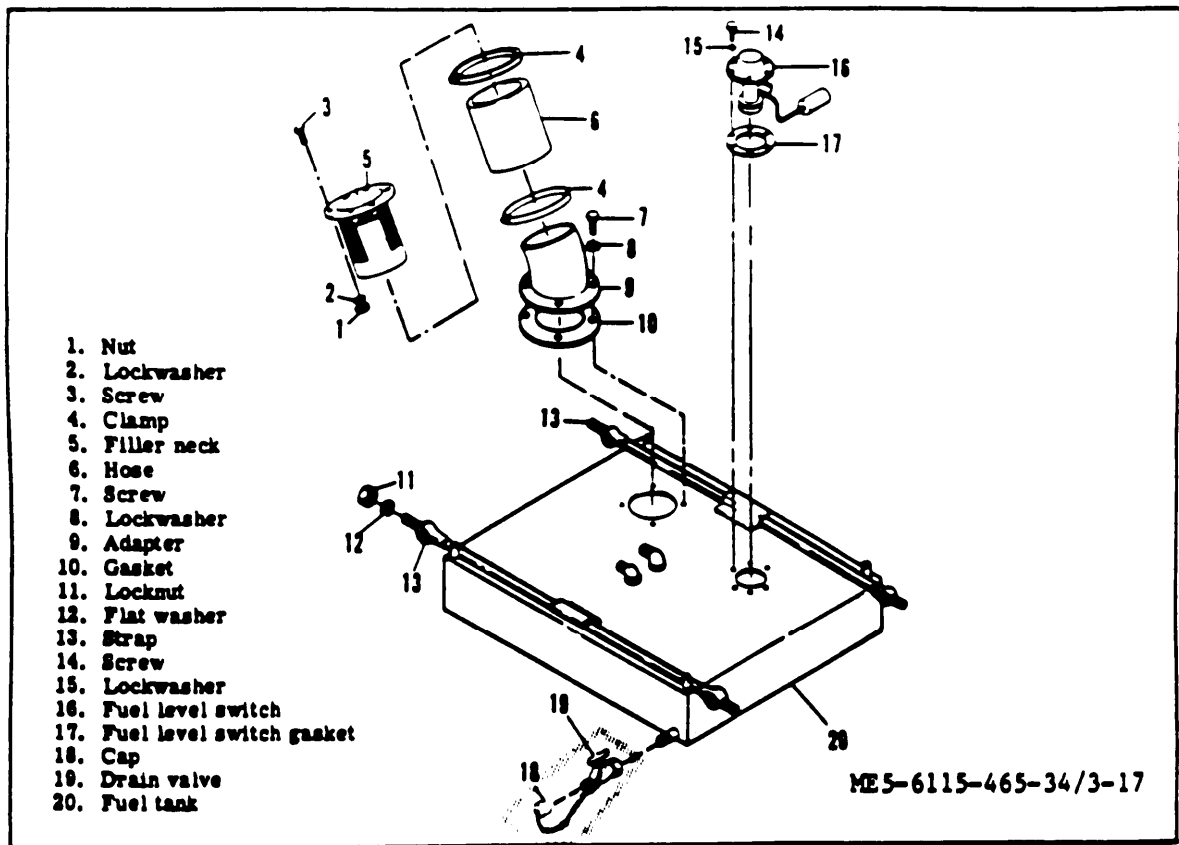

Figure 3-17. Main Fuel Tank (Metal), Removal and Installation
(1) Refer to the Operator's and Organizational Maintenance Manual and accomplish the following:
(2) Remove main fuel tank (metal) by following the ascending numerical sequence of index numbers 1 through 20 assigned to figure 3-17.
(1) Install fuel tank (metal) in reverse order of removal procedurcs. Refer to figure 3-17.